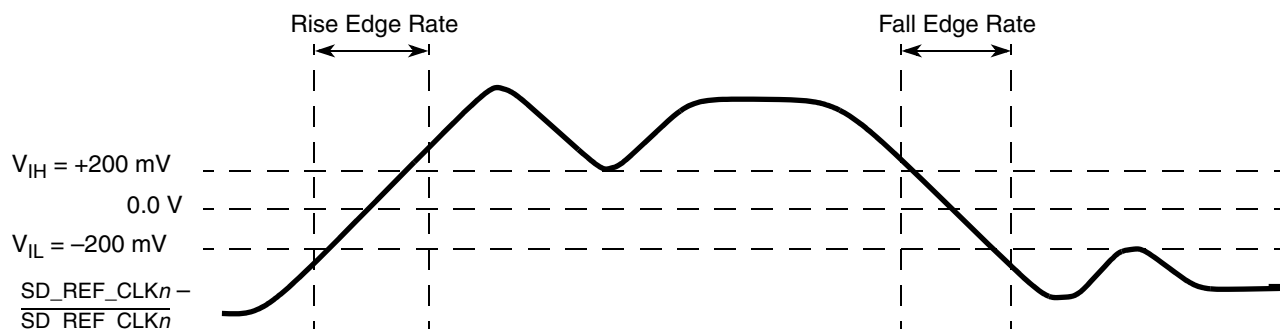

Figure 47. Differential Measurement Points for Rise and Fall Time
- Measured from –200 mV to +200 mV on the differential waveform (derived from SDn_REF_CLK minus $\overline{SDn_REF_CLK}$). The signal must be monotonic through the measurement region for rise and fall time. The 400 mV measurement window is centered on the differential zero crossing. See Figure 47.